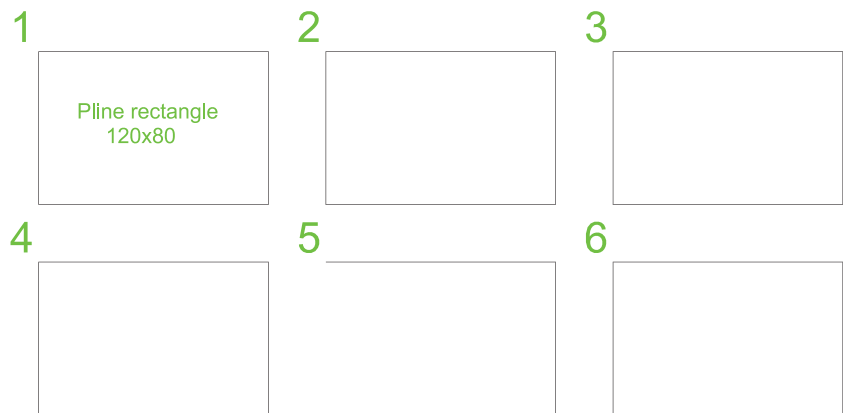

Fig. 3.40 Examples – **Rectangle** Tool
1. With the **Polyline** tool construct the outlines **1** to **6** of Fig. 3.40.